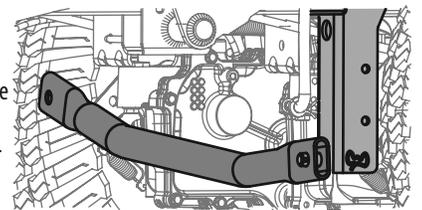

Figure 43
- b. Remove the bow-tie cotter pin on the left side of the bar, connecting the bar with the bracket on the frame. See Figure 43.
10. While holding the PTO belt and PTO pulley together, rotate the PTO pulley to the left (See Figure 43). Continue holding and rotating the PTO pulley and PTO belt until the PTO belt is fully rolled into the PTO pulley.